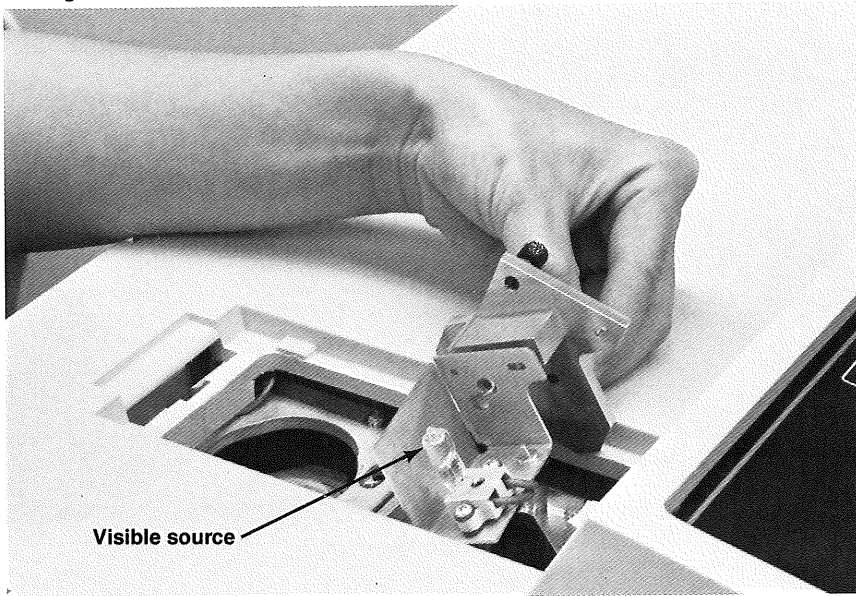

Figure 8-10.
5. Rotate the source mount, so that the visible source is accessible. See Figure 8-10.